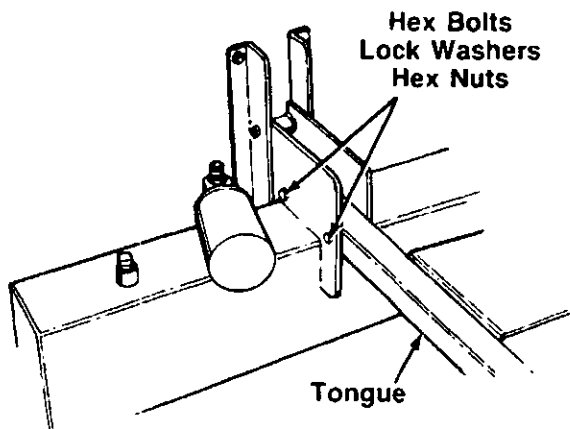

FIGURE 3.
-  3. Remove the two hex bolts, lock washers and hex nuts on the front of the reservoir tank. Two 9/16" wrenches are required. Place the tongue in position, and secure with hardware just removed. See figure 3.